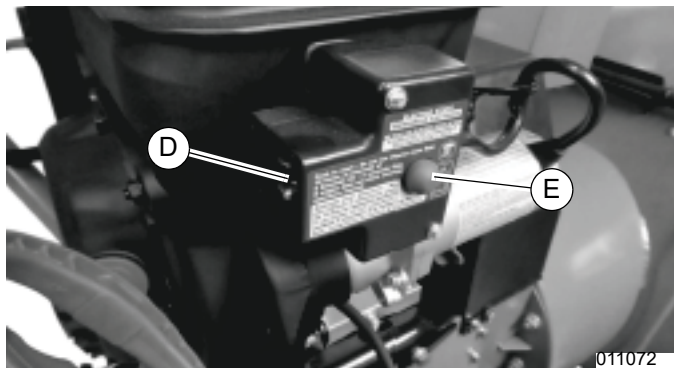

Figure 3-4. Control Box and Starter Button
5. See Figure 3-4. Connect a heavy-duty extension cord into control box (D) and plug extension cord into a 120V outlet.